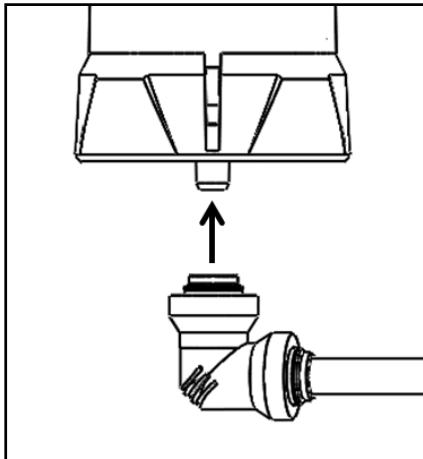

Figure 9
- (6) If using a digital sensor, attach the tubing elbow to the sensor guard as shown in Figure 9. If using a passive sensor, do not use the tubing.